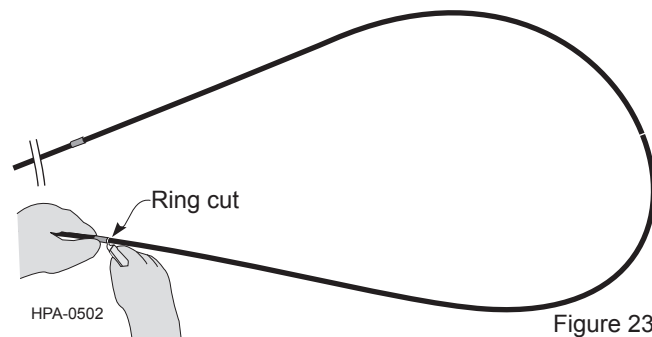

Figure 23
5.5 At one tape wrap, on the inside of the slack loop, use a hook-blade knife to make a ring cut through the outer sheath (Figure 23). **USE CARE TO AVOID CUTTING THE CABLE CORE AND BUFFER TUBES BENEATH THE SHEATH.**